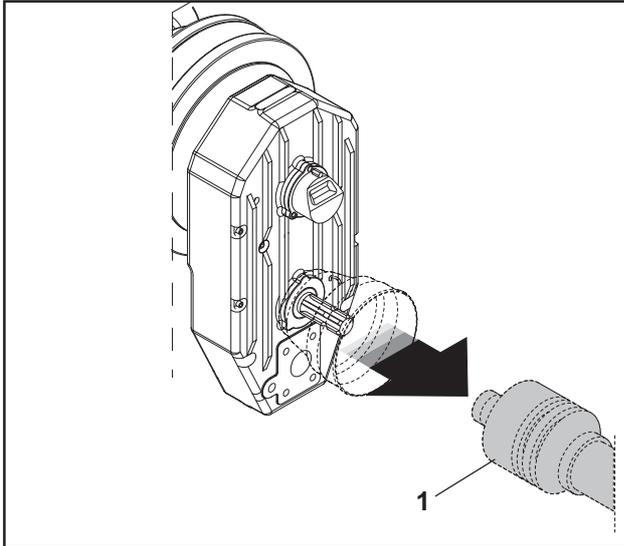

fig.1
- 2) Remove the cardan shaft from the power takeoff (1, fig. 1).
- 4) Put the cardan shaft (1, fig. 1) back on the power takeoff.